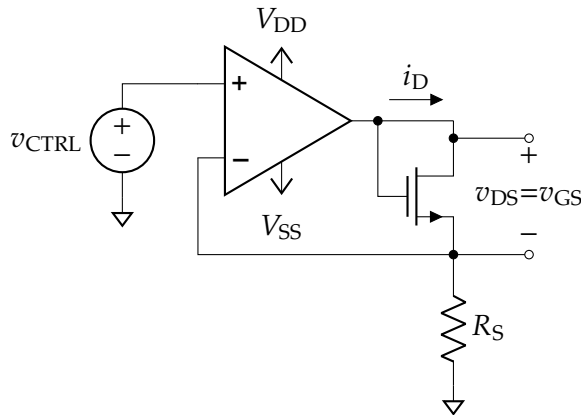

Figure 3.2: Automatic threshold voltage tester
The circuit in figure 3.2 forces $v_{DS} = v_{GS}$ by connecting the gate and drain together. The opamp will automatically set the voltage at the drain and gate node to get the desired current i_D . i_D is programmed by choosing v_{CTRL} and R_S . You will derive the relationship in the prelab. Once the circuit is built, one simply needs to insert the MOSFET into the circuit and measure v_{GS} . The measured value of v_{GS} will be the threshold voltage of the device, as the opamp ensures that the correct amount of current is flowing.
3. Use virtual short circuit analysis on the circuit in figure 3.2 to determine the value of i_D in terms of R_S and v_{CTRL} .
3. Build the circuit in figure 3.2 using $R_S = 100\text{ k}\Omega$, $V_{DD} = 5\text{ V}$, and $V_{SS} = -5\text{ V}$. Use any of the four transistors on the ALD1106.